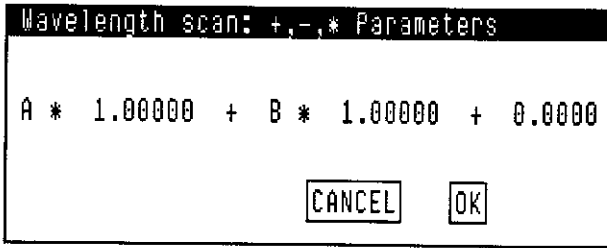

Figure 6-9. +-* Parameters Window
4. To input the calculation parameters, click on "Result" in the middle of the window to display the +-* Parameters window, Figure 6-9.